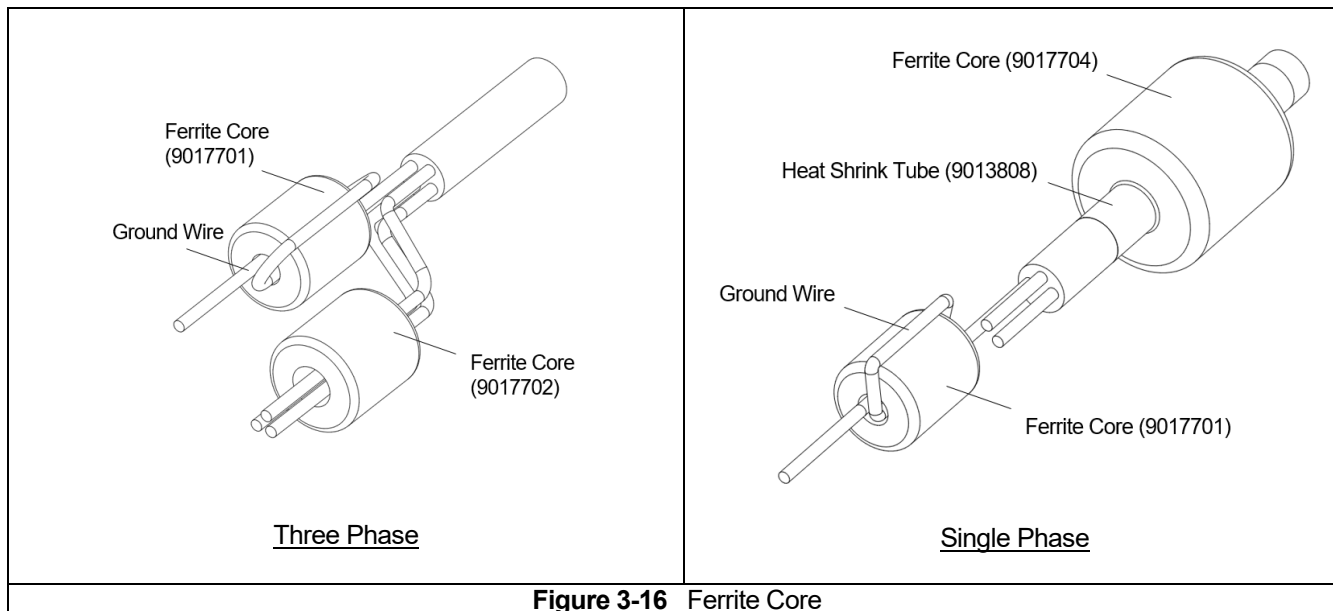

Figure 3-16 Ferrite Core
- Put Ferrite Cores on Power supply Cable Assembly (**Figure 3-16**).